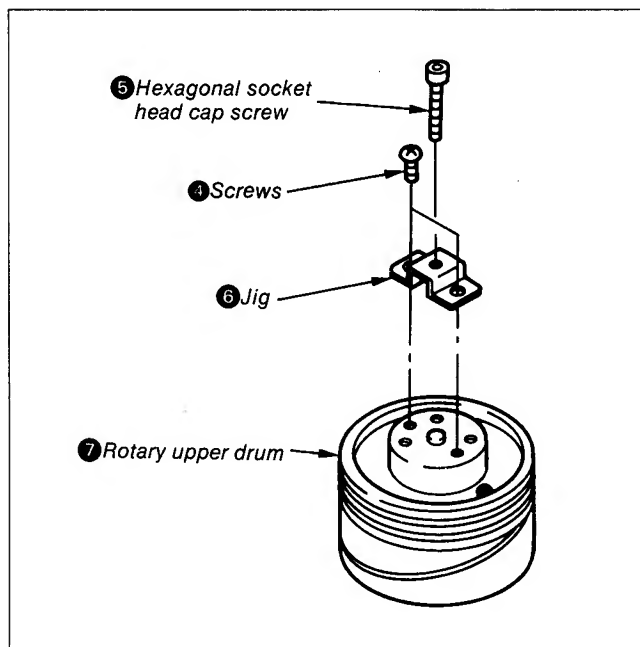

Fig. 8-38.
- 4) Install jig ❹ (Ref No. J-10) with the attached two screws ❺ into the screw hole where the damper ❷ had been installed and twist the attached hexagonal socket head cap screw ❻ into jig ❹. By doing so, the rotary drum becomes floated to the top side and this acts to remove the rotary upper drum ❼. (See Fig. 8-38.)